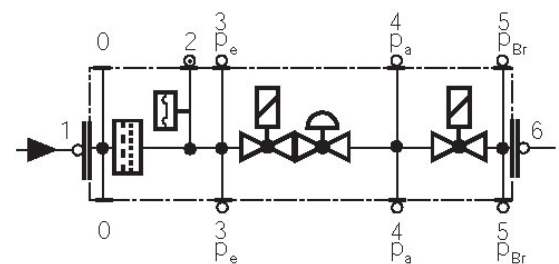

Fig. 31
- Change the filter if the pressure difference between pressure connection 1 and 2 (Fig. 31-Fig. 32) $\Delta p > 10$ mbar.
- Change the filter if the pressure difference between pressure connection 1 and 2 (Fig. 31-Fig. 32) is twice as high compared to the last check.